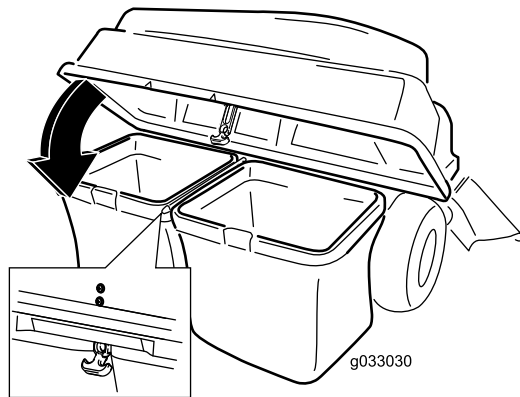

Figure 21
5. Lower the bagger top onto the bags (Figure 21).
6. Secure the hood with the latch (Figure 21).